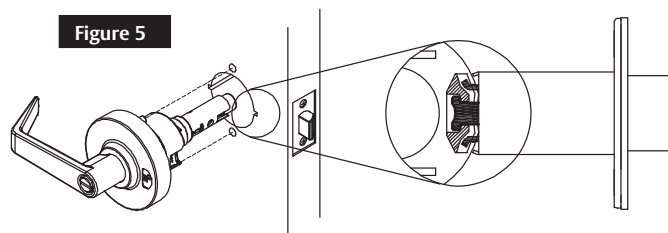

Figure 5
2. Insert outside trim assembly into door from outside making sure that lockbody hooks latch case and retractor engages bolt tail(s) (Figure 5).